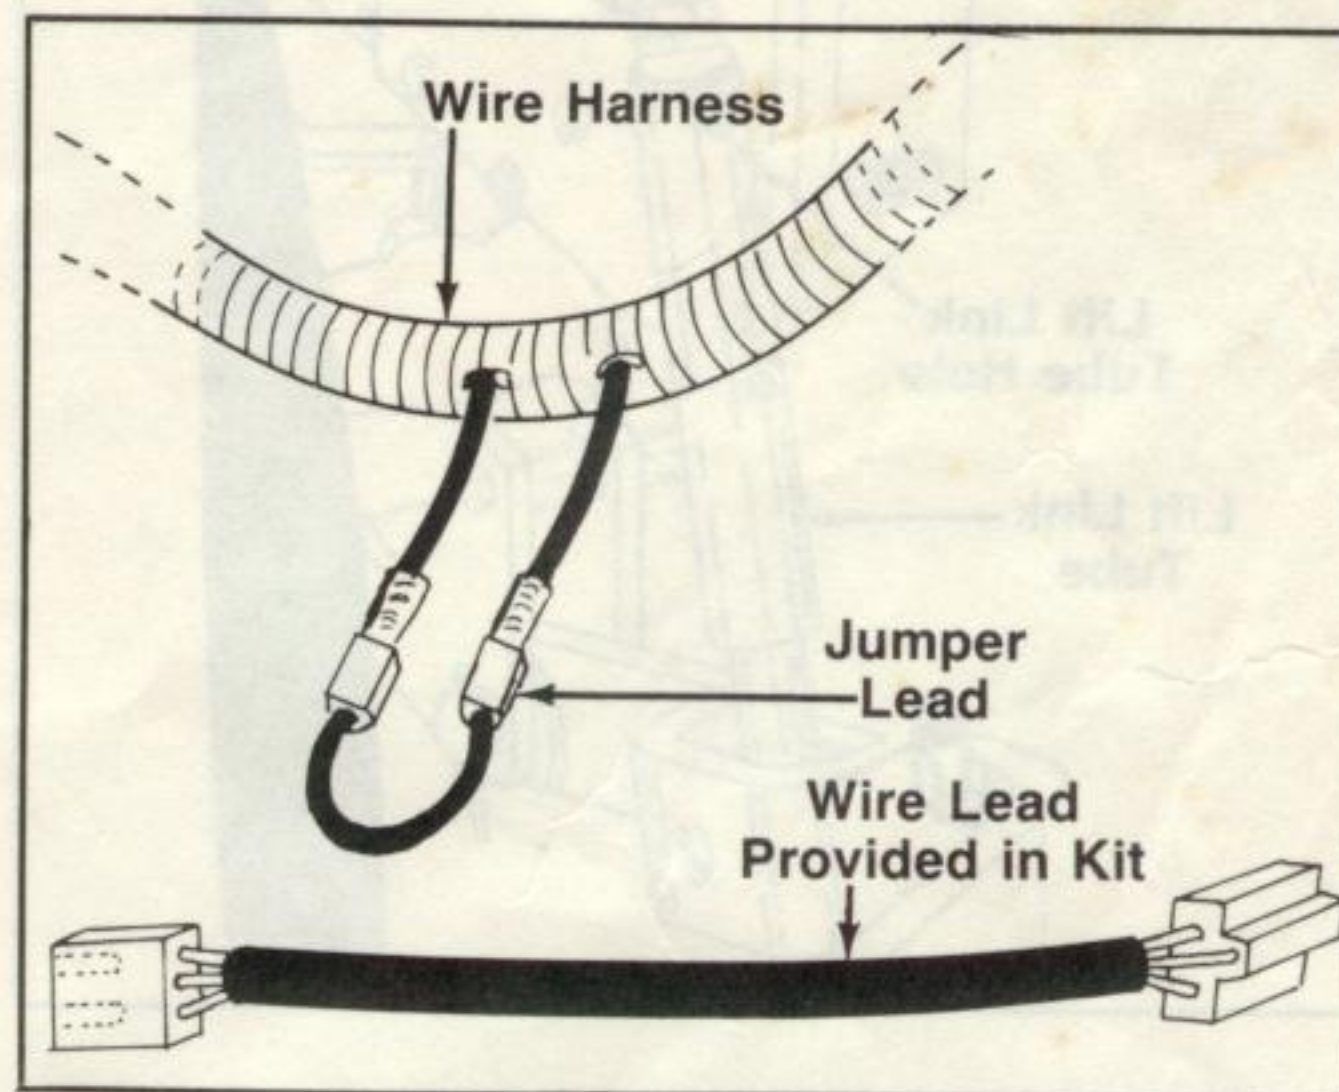

FIGURE 41.
56. Remove jumper lead located in wire harness and plug in wire lead provided in kit to P.T.O. directional switch. See figure 41.